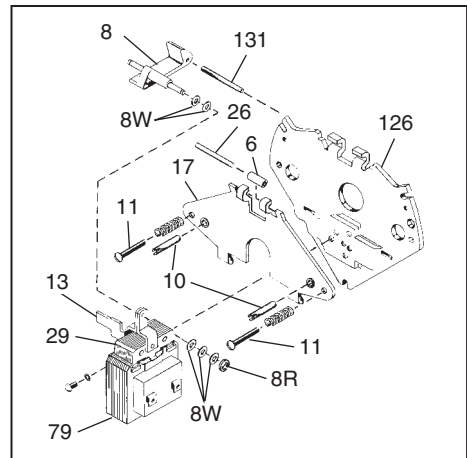

Figure 2
1. Refer to Figures 2 and 8. Insert screwdriver between support plate (126) and lever arm (17). Wedge apart and remove bearing pin (26), bearing (6), pin (131) and solenoid lever (8), connected to solenoid link (13) and plunger (29).